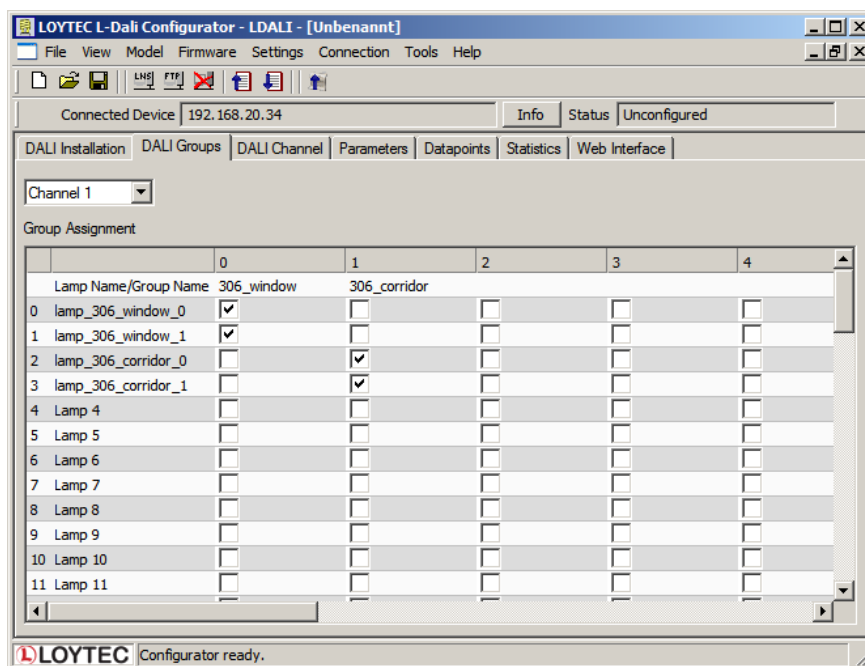

Figure 18: L-DALI Configuration Software, Group Configuration
2. Add the two lamps near the window to group 0 and the two lamps near the corridor to group 1. Assign names to the groups as shown in Figure 18.